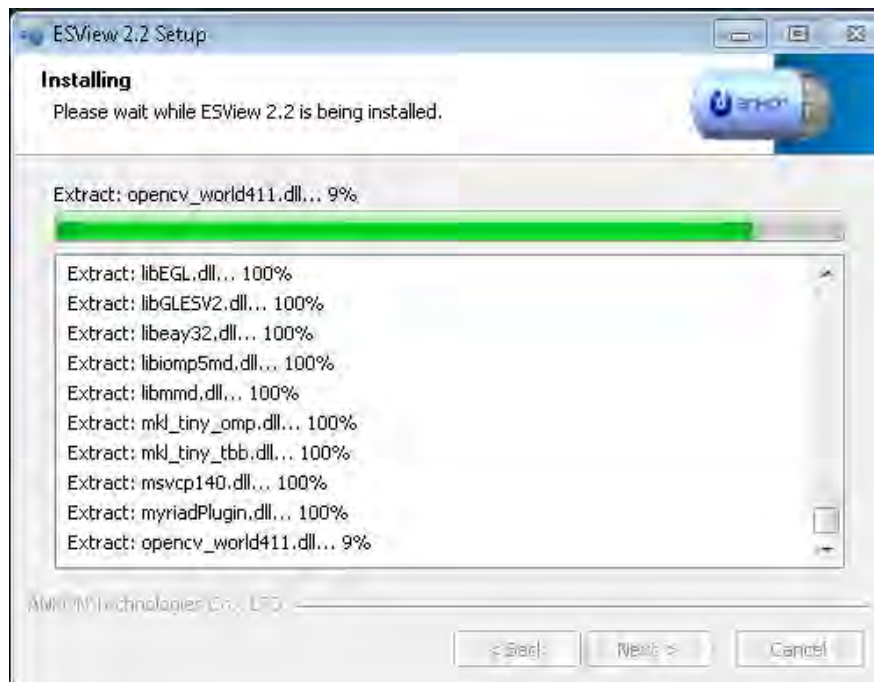

Figure 3-4: Installation Progress Dialog Box
- The dialog box, showing the installation progress (Figure 3-4), is displayed.